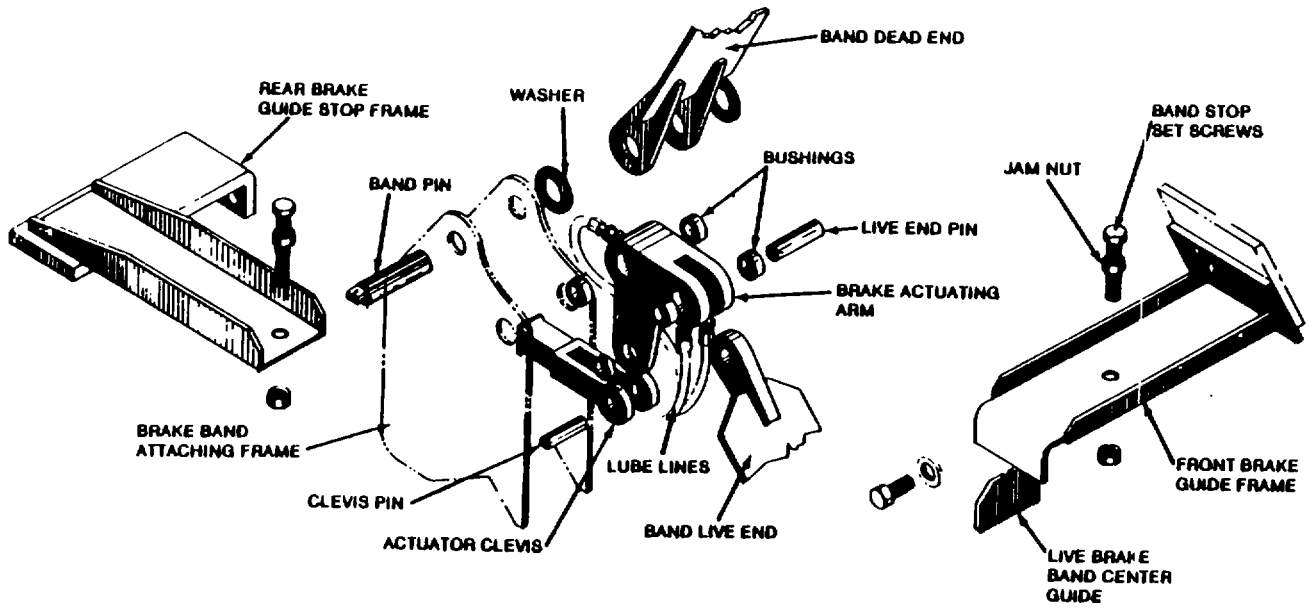

Figure 5-46. Brake Actuating Arm Assembly and Disassembly.
- (6) Loosen brake band guide bolts and cam roller(s) enough to remove brake bands.
- (7) Slowly release air pressure on parking brake air chamber. Then remove pin attaching live end of brake band to brake actuating arm.
- (8) Remove dead end of band in a similar manner.
- (9) Remove pin from brake actuating chamber clevis.
- (10) Refer to Figure 5-46 and remove four hex bolts, clip washers and nuts that mount brake actuating arm to winch frame. Remove swivel lube line to live end brake band pin. Remove brake arm.
- (11) Remove hex nuts and lock washers that mate brake air chamber to winch frame.
- (12) Remove air line to brake chamber.
- (13) Loosen jam nuts on brake connecting rod and disconnect hex sleeve while removing air chamber.
- (14) Remove hex nuts and lockwashers that mount parking brake air chamber. Remove chamber.